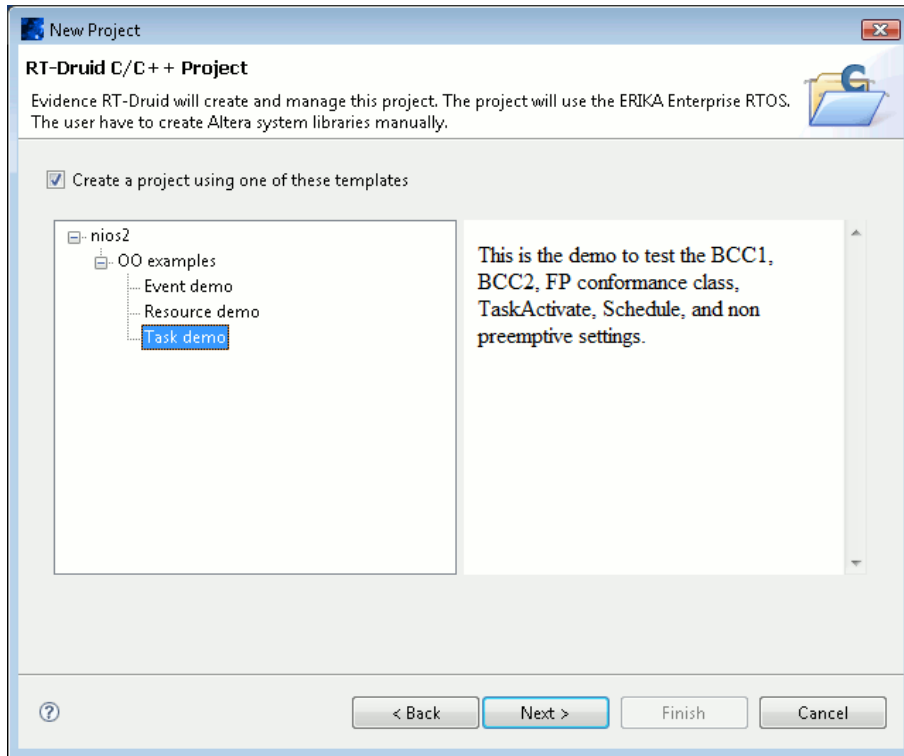

Figure 1.1: Creating a new project from a template.
10. Select one of the templates, as in Figure 1.1